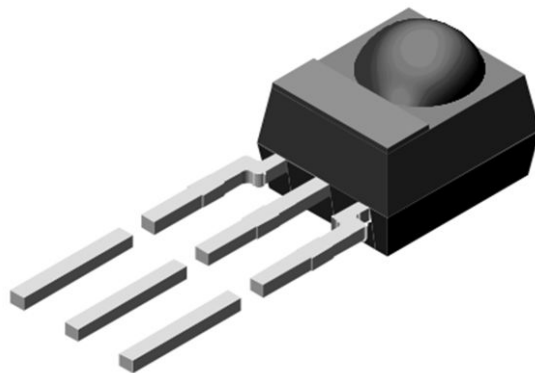

Figure 11-1. *Infrared Decoder Module*
- The TV remote control sketch requires an infrared decoder module. TSOP4838 (or the equivalent PNA4602) modules (Figure 11-1) have power and signal pins oriented to enable them to plug directly into the socket on the motor shield.